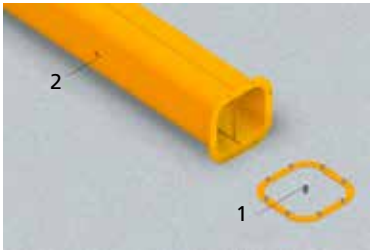

fig.25
- In the case of cable 1 that protrudes from the pipe set up in the plinth, directly insert the cable in the column until reaching hole 2 located at the top of the column (fig. 25)